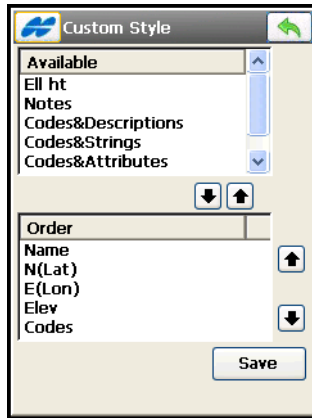

Figure 5-32. Custom Style
To customize the file format, enter the order of data using the *Custom Style* screen (Figure 5-32 on page 5-24).
2. Select items from the *Available* list and tap the right arrow button to move them to the *Order* list (Figure 5-32 on page 5-24).